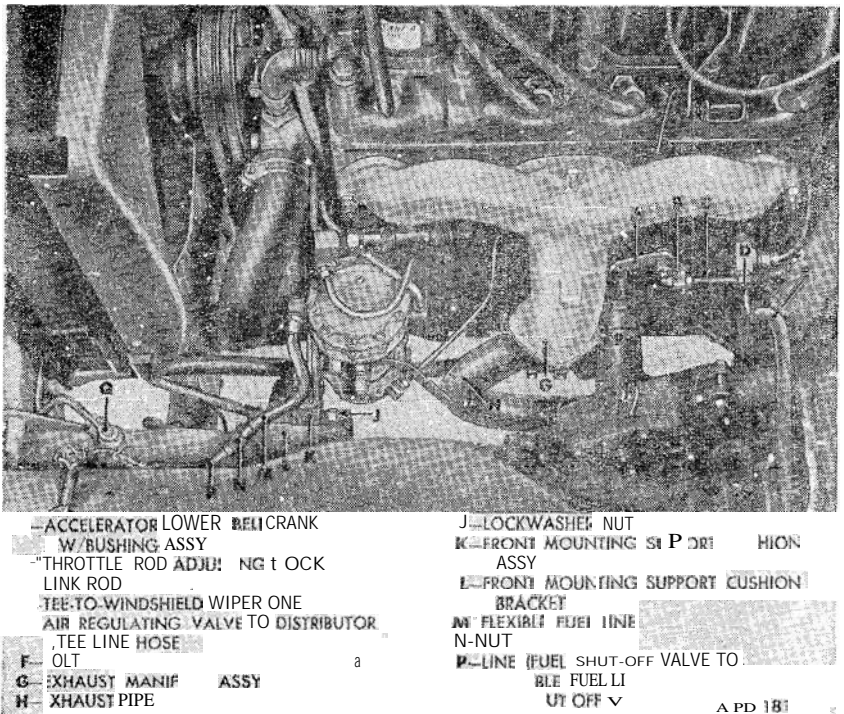
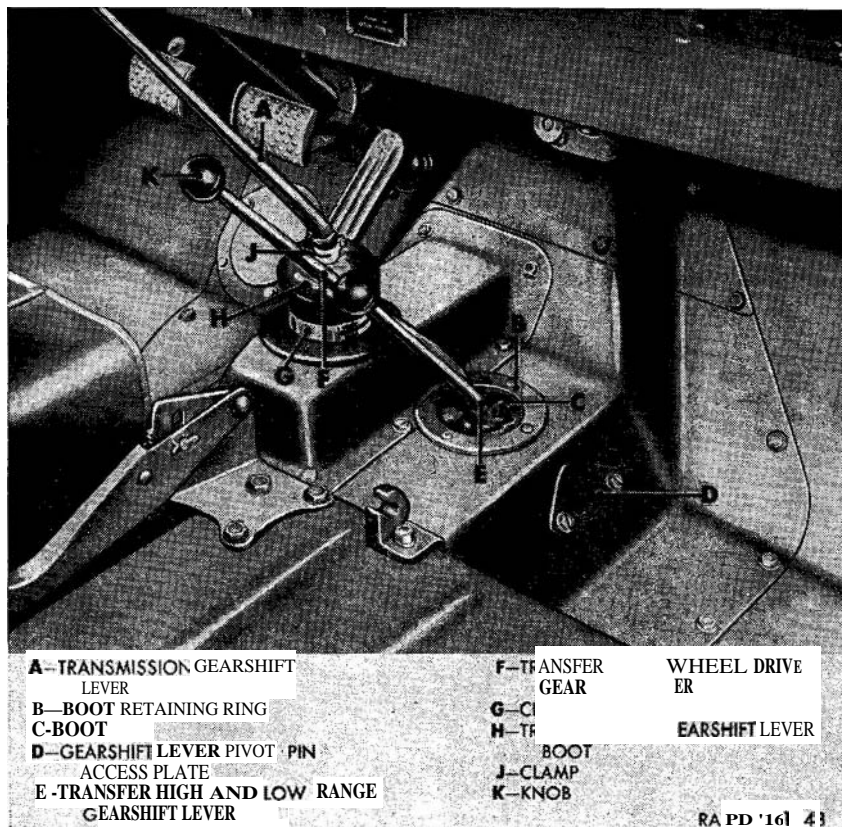
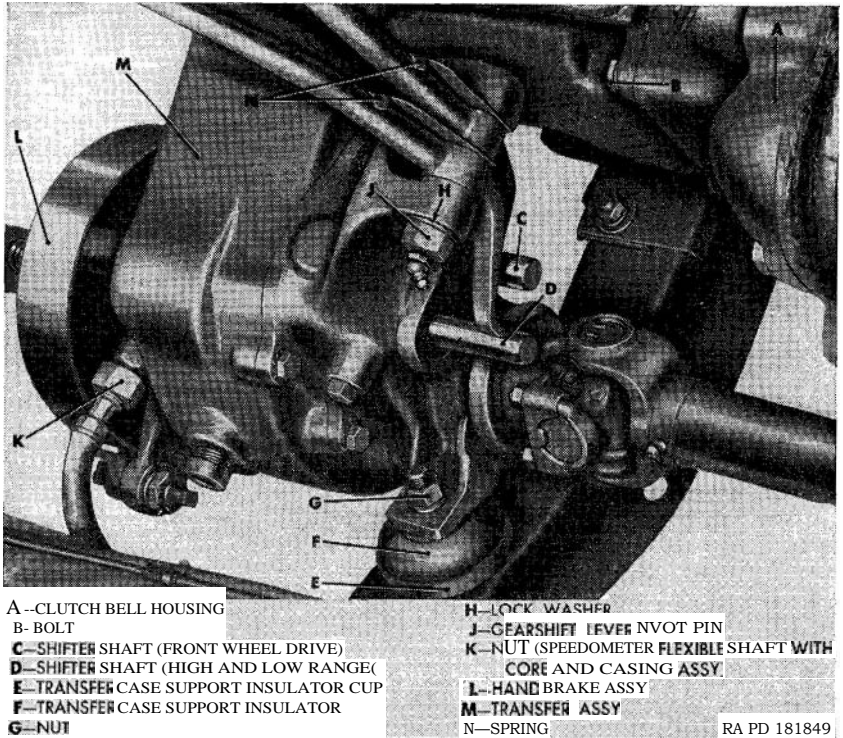

Figure 55. Power plant removal—disconnect points left side of vehicle.
Figure 56. Power plant removal disconnect points—driver's compartment.
Figure 57. Power plant removal—transfer disconnect points.
*Note.* The key letters noted in parentheses refer to figure 55; except where otherwise indicated.
- (1) Turn the fuel shutoff valve (Q) to the OFF position. Unscrew the nut (N) from the flexible fuel line (M).
- (2) Pull the air regulating valve-to-distributor tee line hose (E) off the tee-to-windshield wiper line (D).
- (3) Unscrew the two nuts securing the exhaust pipe (H) to the exhaust manifold assembly (G) and remove the bolt (F). Separate the flanges and discard the exhaust pipe flange gasket.
- (4) Remove a cotter pin and flat washer and separate the throttle rod adjusting block (B) from the accelerator lower bellerank
*Note.* The key letters noted in parentheses refer to figure 56, except where otherwise indicated.
- (1) Remove the gearshift lever knob from the transmission gearshift lever (A) and the knobs (K) from the transfer high and low range gearshift lever (E) and the transfer front wheel drive gearshift lever (F).
- (2) Remove the sheet metal screws from the boot retaining ring (B) and slide the boot (C) up and off the levers. Loosen the screw in the clamp (G). Loosen the clamp (J) and remove the transmission gearshift lever boot (H) and the clamps from the lever.
- (3) Loosen the lockwasher screws in the transfer gearshift lever pivot pin access plate (D) and swing the plate back. Reach through the opening and unscrew the gearshift lever pivot pin (J, fig. 57). Pull the pin with lockwasher (H, fig. 57) out through the opening, and remove the gearshift levers and springs (N, fig. 57).
- (4) Unscrew the transmission gearshift lever housing cap from the housing and remove the lever. Stuff a clean rag in the housing opening.
- (5) Unscrew the transfer case support insulator snubber bolt from the nut (G, fig. 57) on top of the right side of the engine
rear support cross member (Q) and remove the lockwasher. Pull the bolt, with two flat washers and the snubber out of the transfer case support insulator (F, fig. 57) and the cross member. Unscrew the nut (K, fig. 57) on the end of the speedometer flexible shaft with core and casing assembly (E) from the transfer speedometer drive gear sleeve, and remove shaft with core and casing assembly from the sleeve.
the cross member, the case support insulator retaining cup, the case support insulator, the  $\frac{1}{2}$ -inch washer, and through the hole in the transfer case support. Install a  $\frac{1}{2}$ -inch lockwasher and  $\frac{1}{2}$ -inch nut (G, fig. 57). Connect the speedometer flexible shaft with core and casing assembly to the speedometer gear sleeve on the transfer.
- (3) Push the engine stay cable assembly (P) threaded end through the clutch bell housing hole, and slide the opposite end into the stay cable rear bracket (N) slot. Install a  $\frac{3}{8}$ -inch lockwasher nut on the cable. Position the yoke (V) on the clutch control lever, and secure with a  $\frac{9}{16} \times \frac{27}{32}$  clevis pin and  $\frac{1}{2} \times \frac{1}{2}$  cotter pin.
- (4) Install a  $\frac{7}{16}$ -inch ID flat washer and a  $\frac{1}{2}$ -inch lockwasher nut (L) on each of the two studs of the engine rear mounting support cushion with studs assembly (M).
- (5) Place the brake rod adjusting yoke (F) on the hand brake cam lever (G) and secure with a  $\frac{5}{16}$ -inch clevis pin and  $\frac{3}{32} \times \frac{1}{2}$  cotter pin. Hook the spring (K) to the yoke and skid plate (J). Hook the service brake pedal retracting spring (T) into the bracket (R).
- (6) Install the rear end of the front propeller shaft (par. 203a (2) ), and the front end of the rear propeller shaft (par 203b (1) )
- (1) Insert the transmission gearshift lever (A) in the housing and screw the transmission gearshift lever housing cap onto the housing. Slide the boot (C) and clamp (G) over the lever and tighten the screw in the clamp. Slide the clamp (J) over the lever and boot and tighten the clamp.
- (2) Position the transfer high and low range gearshift lever (E) in the shifter shaft (D, fig. 57) slot. Place a  $\frac{5}{8}$ -inch internal-teeth lockwasher on the gearshift lever pivot pin (J, fig. 57). Working through the access plate opening, push the pin into the transfer hole and part way through the lever hole. Position the transfer front wheel drive gearshift lever (F) in the shifter shaft (C, fig. 57) slot and slide the pivot pin through the lever hole. Install the springs (N, fig. 57) over the pivot pin and onto the levers. Screw the pivot pin into the transfer.
- (3) Swing the gearshift lever pivot pin access plate (D) into position and tighten the two lockwasher screws. Slide the boot (C) and the boot retaining ring (B) over the levers and install the four sheet metal screws in the ring.
- (4) Install the transmission gearshift lever knob on the lever. Install the transfer high and low range gearshift lever (E) and the transfer front wheel gearshift lever knobs (K) on the levers.
*Note.* The key letters noted in parentheses refer to figure 55, except where otherwise indicated.
- (1) Insert two  $\frac{5}{16} \times \frac{7}{8}$  bolts, with flat washers, through the front mounting support cushion bracket (L) and through the front mounting support cushion assembly (K) and secure with a  $\frac{5}{16}$ -inch lockwasher nut on each bolt.
- (2) Pull the link rod (C) down through the upper front floor pan cover and insert the throttle rod adjusting block (B) into the accelerator lower bellcrank with bushing assembly (A). Secure the bellcrank to the block with a No. 8 flat washer and a  $\frac{1}{16} \times 1\frac{1}{2}$  cotter pin.
- (3) Install the exhaust pipe on the exhaust manifold (par. 146b(1) and (3)).
- (4) Push the air regulating valve-to-distributor tee line hose (E) onto the tee-to-windshield wiper line (D).
- (5) Screw the nut (N) on the line (P) into the flexible fuel line (M) and turn the fuel shutoff valve (Q) to the ON position.